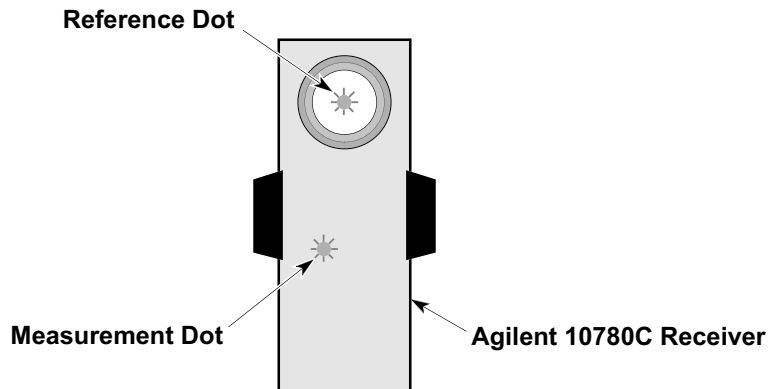

Figure 4-11. Results of reflector movement
- Measuring the reference surfaces on the mirror, true square, or gauge block with a dial indicator, and adjusting the pitch and yaw of the mirror surface. (See Figure 4-11.)
5. Figure 4-11 illustrates a typical two-dot pattern on the receiver that is seen after the optics have moved. Now rotate the beam until the dots again overlap at the receiver. This adjustment of the laser beam can be done by moving the laser head, beam bender, or interferometer, depending on the optical layout.